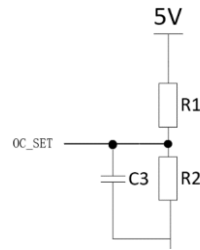

Figure 1: OC SET resistor divider
- 1) OC\_SET input voltage supports  $0.3 \cdot V_{CC} \sim 0.97 \cdot V_{CC}$  range, users can set the overcurrent alarm threshold of FLAG\_S pin through the OC\_SET input voltage (as shown in the above table), the input voltage is allowed to use VCC and resistance partial voltage for adaptive (Figure 1). When the OC\_SET input voltage is in the range of  $OC\_SET \in (0.3 \cdot V_{CC}, 0.34 \cdot V_{CC})$ , it corresponds to the minimum trigger point IFLAG; when the OC\_SET input voltage is in the range of  $OC\_SET \in (0.91 \cdot V_{CC}, 0.97 \cdot V_{CC})$ , it corresponds to the maximum trigger point IFLAG.